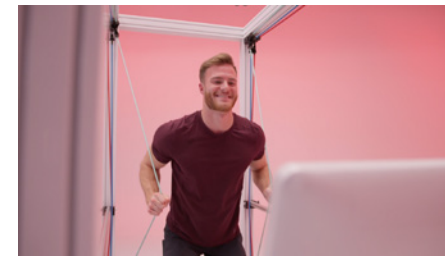

Figure 1:
1. Switch on the Sensopro Video Kit using the main switch and wait for the device to start up (maximum 1 minute). The home screen video comes up (figure 1).